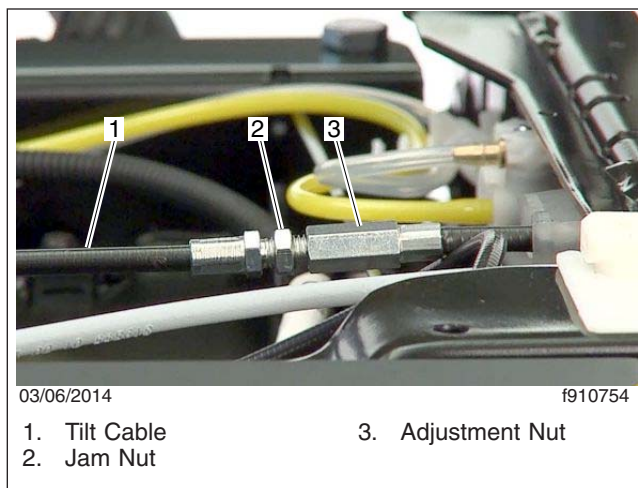

Fig. 22, Tilt Cable Adjustment
- 5.1 Rotate the adjustment nut until there is no gap between the lever and the lever mount when the lever is pulled up. See Fig. 22.